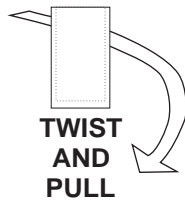

fig. 1
- Remove the protective cap by gently twisting and pulling it off the probe (fig.1).